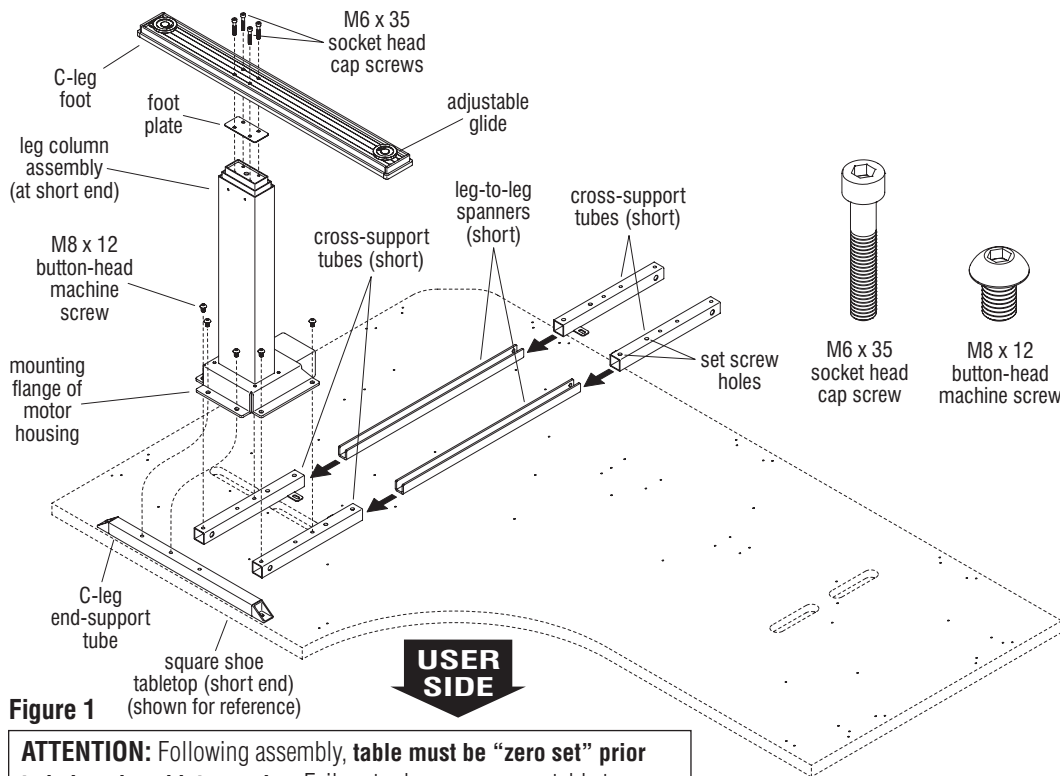

Figure 1
1. Carefully remove contents from packaging, set out on a soft, clean surface and refer to Figures 1, 2 & 3 to identify the parts required for assembly.
2. Start assembling the C-leg to be placed on the short end of the table by positioning two shorter cross-support tubes (with mounting tabs facing down and facing inwards), and one C-leg end support tube in position as illustrated in Figure 1. Place a leg column assembly over the three support tubes and align six mounting holes of the leg column mounting base with appropriate mounting holes of the three tubes as illustrated. The C-leg end support tube contains three mounting holes but only the two non-user side holes are used. Make sure the tube has the longer end with one unused mounting hole facing the user side as illustrated in Detail A. Using six M8 x 12 button head machine screws torqued to 9.5 ft/lb, secure the flange of the leg column to the three support tubes (Figure 1).
3. Assemble the C-leg foot to the leg column by first positioning a plastic foot plate over the mounting location on the leg column. The foot plate must be oriented so the raised flange faces into the column, to nest the foot plate into place. Next, position a foot over the foot plate and leg column as illustrated, with the mounting holes of the foot aligning with those of the leg column. It is important that the longer end of the C-leg foot face the user side. Once the foot is correctly oriented, secure the foot to the leg column with four M6 x 35 socket head cap screws. Torque to 7.5 ft/lb (Figure 1).
4. Position the two shorter leg-to-leg spanners with their channel openings face up, then slide both spanners into the open ends of the cross-support tubes installed under the leg column base. Next slide a cross-support tube (matching the same length as at the opposite end of the leg-to-leg spanner) onto each end of the leg-to-leg spanners (with mounting tabs face down and facing inward). Do not secure the support tubes to the spanners with set screws at this time (Figure 1).